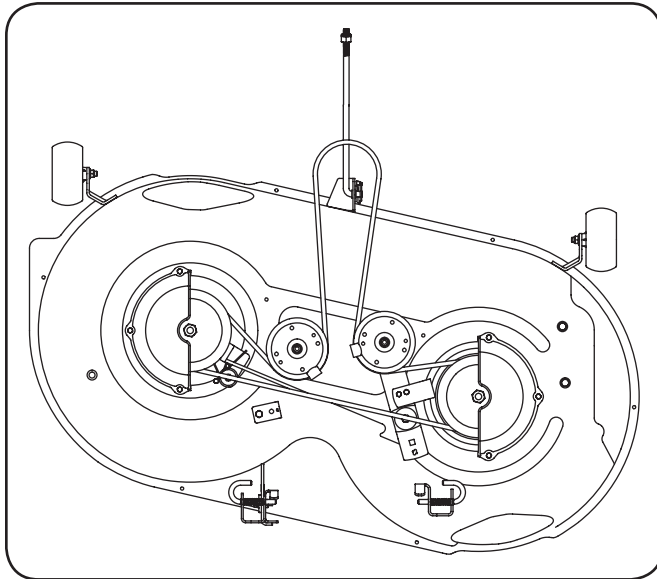

Figure 7-7
5. To place the new belt, begin by routing the belt around the two outer spindle pulleys as shown in Figure 7-7.
6. Then route the belt around the two deck idler pulleys as shown in Figure 7-7.